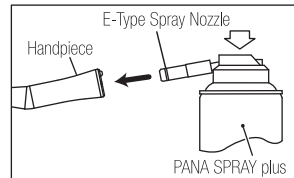

Fig. 14
- 1) Confirm that the marks on the head and shank are aligned and they are locked.(Fig.14)